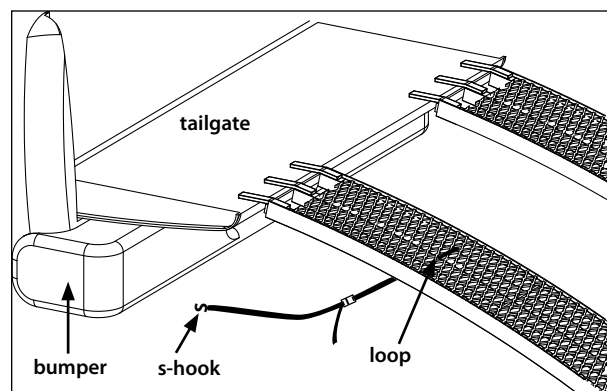

Figure 1
1. Attach the two provided securing straps to the center brace, approximately 16" from the tailgate end (one on each ramp). Wrap the loop end of each strap around the center brace and thread the buckle and "S" hook end thru the loop. This permanently attaches straps to the ramp. **SEE FIGURE 1.**